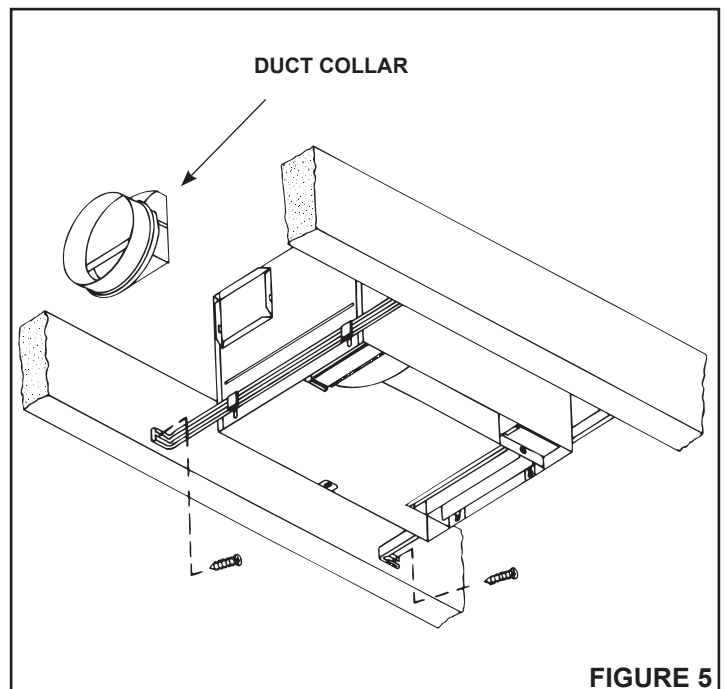

FIGURE 5
2. **Refer to Figure 5.** Using nails, secure hanger bars to joists.
1. **Refer to Figure 5.** Install duct collar.